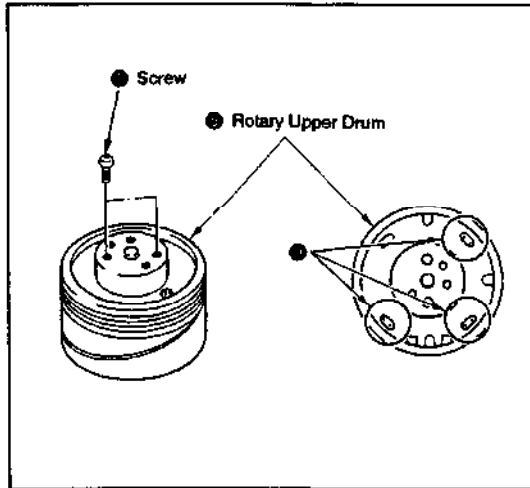
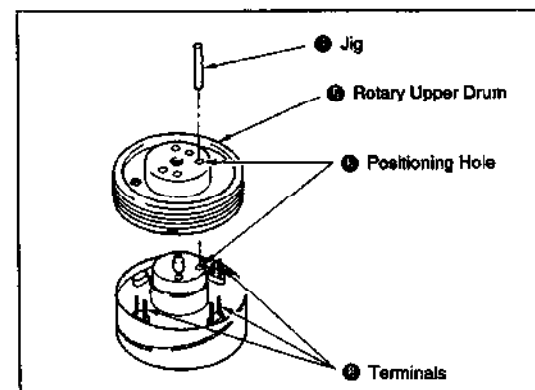

Fig. 3-22.
Fig. 3-24.
- 1) Detach the six solderings ①, then use a pair of tweezers or the like to confirm that the terminals passing through the board holes from below can move freely.
- 2) Remove the two screws ② (See Fig. 3-22).
- 1) Wipe clean the flange surface and the rotary upper drum ⑥ surface that makes contact with it, and confirm that they are free from dirt and scratches.
- 2) Insert the jig ③ (Ref. No. J-7) into the drum positioning hole, then set the rotary upper drum ⑥ by passing the jig through its positioning hole ⑦.
- Note:** Confirm that the terminals ⑧ protrude slightly from the rotary upper drum board holes (See Fig. 3-24).
- 3) Remove the jig ③ and push down the rotary upper drum ⑥ gently by hand. If it does not go all the way down, secure it temporarily by tightening the two hexagon socket screws ⑤ alternately.
- 4) Insert the jig ③ into the positioning hole ⑦ again and confirm that it goes in smoothly. If it does not, loosen the two screws ⑤, repeat step 3 of the Removal paragraph and restart the setting procedure.
- 5) Tighten the screws ④.
- 6) Solder the terminals ⑧ (< ⑨ in Fig. 3-22).